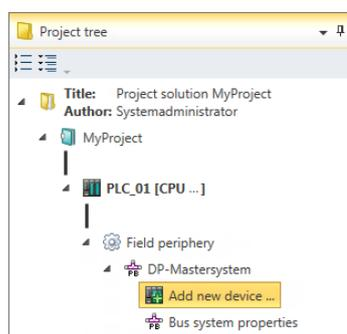

Fig. 60: Adding slave via "Project tree"
- **Project tree:** Within the PLC under 'Decentralised periphery' and the suitable bus system (e.g. DP master system), click on 'Add new device'. Fig. 60